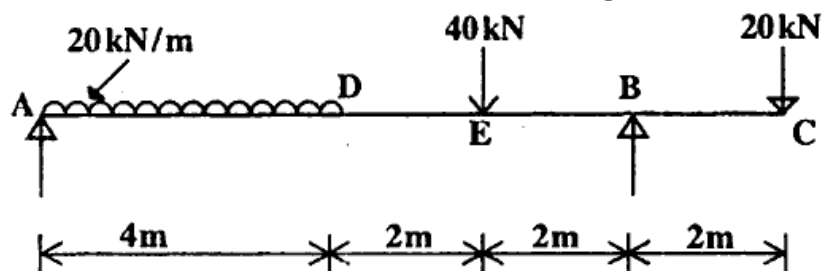

fig. Q. 3 (b)
- (b) Draw bending moment and shear force diagram for the beam shown in fig. Q. 3 (b). Also calculate maximum bending moment. 9